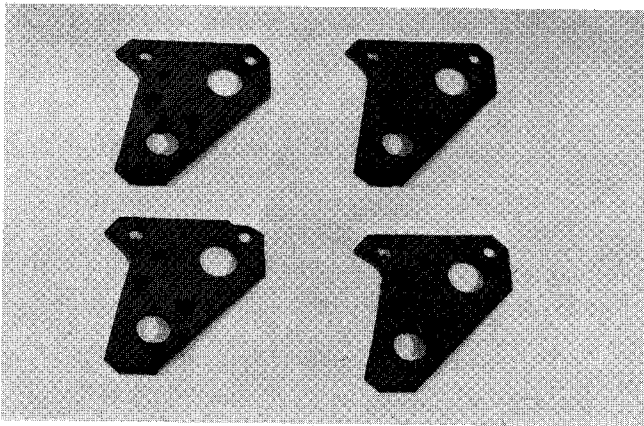

Fig. 34 — Anchor Plates
1. Select four mower mounting anchor plates, spring retainers and attaching hardware from mower carton. See Figs. 34, 35 and 36.
2. Assemble anchor plates together and note that all four are made identical giving them interchangeability left, right, front or rear, see Fig. 34.